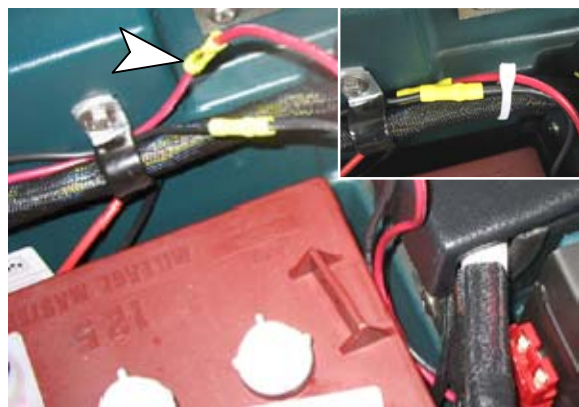

Fig. 12
12. Crimp the barrel connectors on the DC connector wires to the red and black wires from the charger. Secure the wires to the machine wire harness using wire ties as shown (Figure 12).